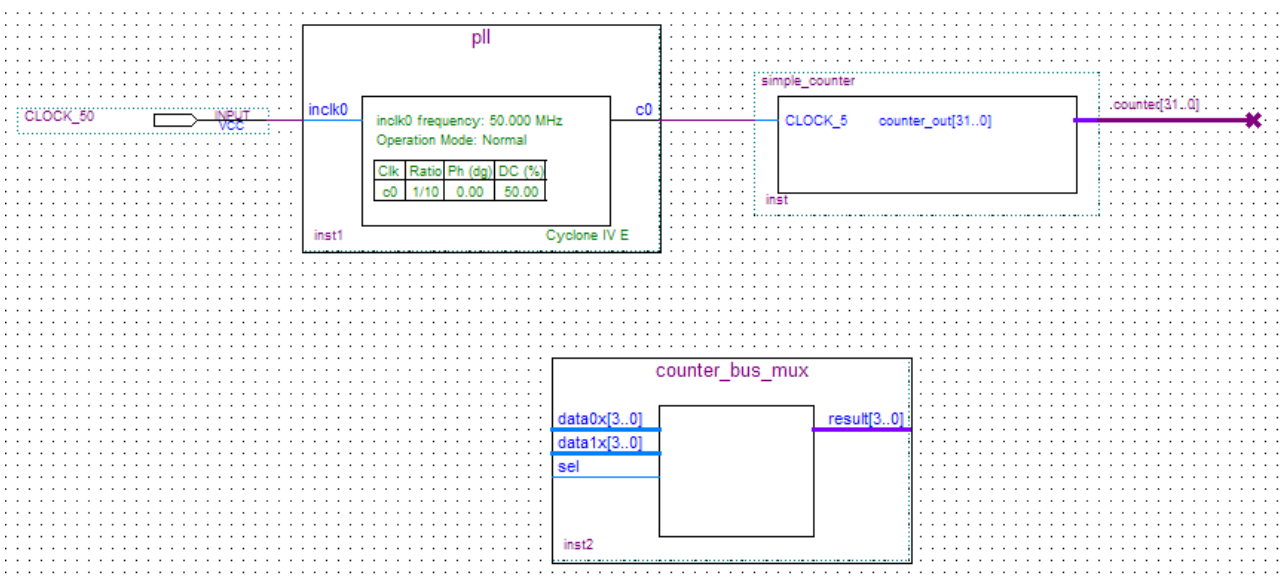

Figure 3-25 Place the lpm_mux symbol
13. Place the counter_bus_mux symbol below the existing symbols on the BDF. See Figure 3-25.